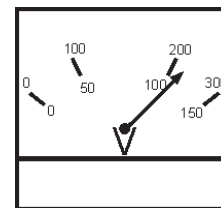
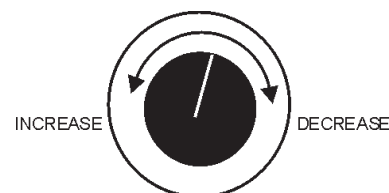

Figure 44. Voltage Meter (Volts)
Figure 45. Voltage Adjust Control Knob
10. The generator's voltage meter (Figure 44) displays the 120 VAC in **VOLTS**. If the voltage is not within the specified frequency tolerance, use the voltage adjustment control knob (Figure 45) to increase or decrease the desired voltage.